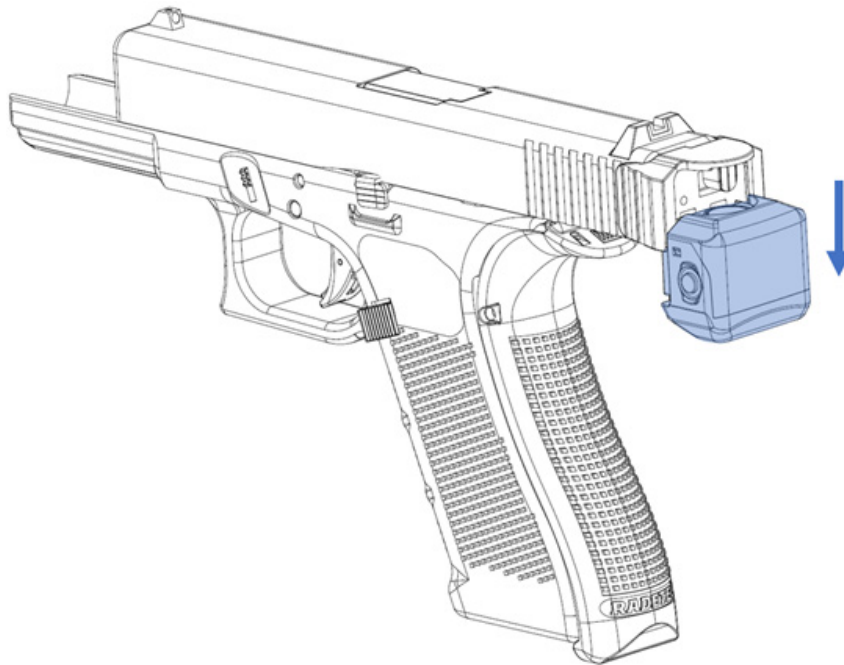

Figure 106: RISC Display dismount direction.
1. Take out the RISC Display from the Backplate (Figure 106).